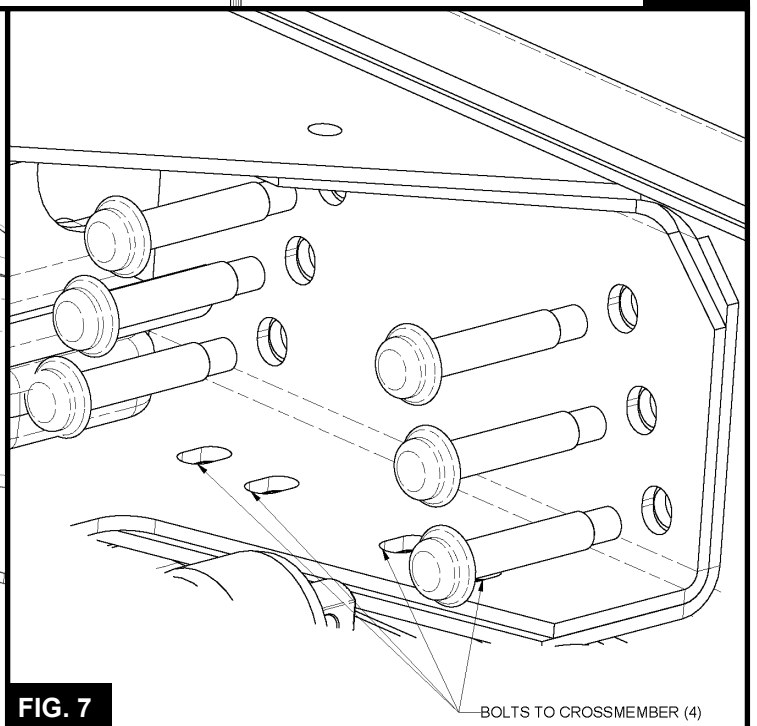

FIG. 7
- 6.7 Remove the 6 bolts or huck fasteners connecting the front hanger to the truck frame and the 4 bolts connecting the crossmember to the truck frame (See FIG. 7).